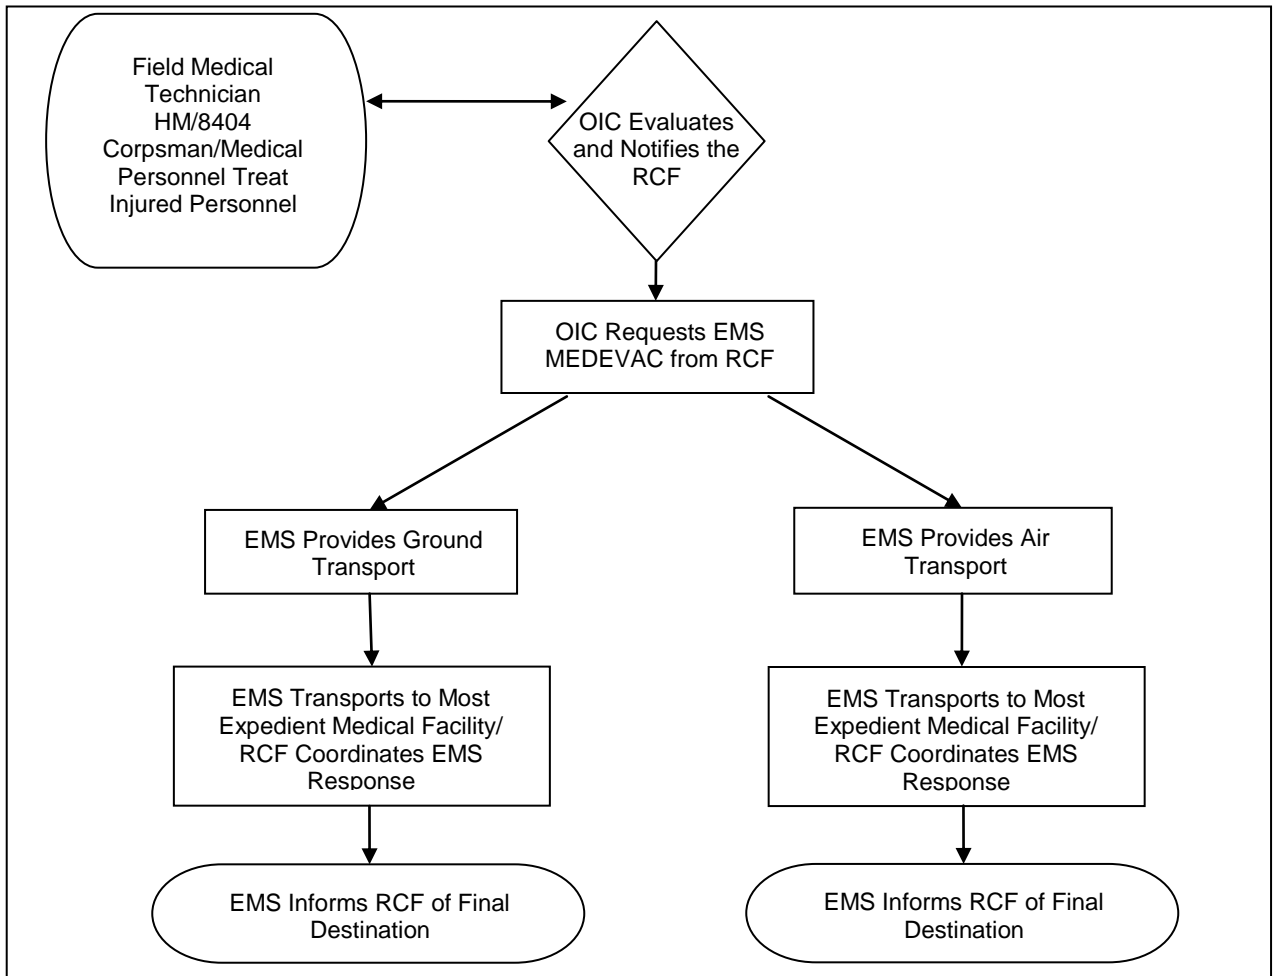

Figure 1-3 Urgent MEDEVAC/Mass Casualty Decision Tree
3. Urgent MEDEVAC/Mass Casualty Situation. Figure 1-3 shows the OIC/RSO decision points during an Urgent MEDEVAC/Mass Casualty Situation.